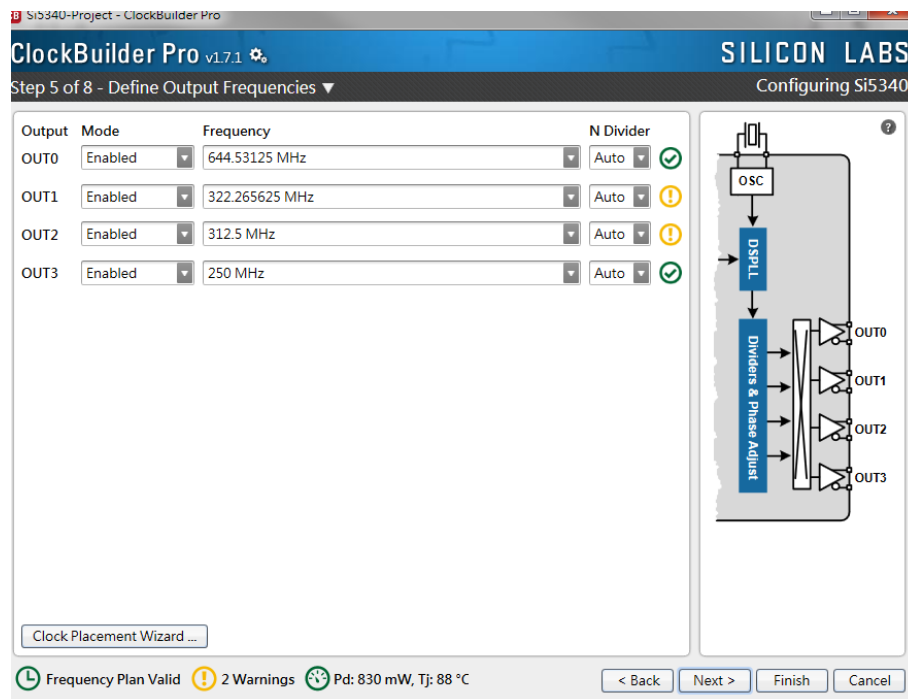

Figure 5-6 Define Output Clock Frequencies on ClockBuilder Pro Wizard
2. After the installation, select Si5340, and configure the input frequency and output frequency as shown in **Figure 5-6**.